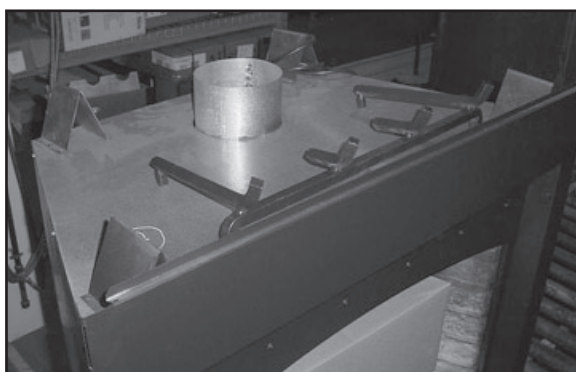

Figure 10.2 Shipping Location of Grate
- The grate is shipped on top of the appliance. See Figure 10.2. Remove the grate.